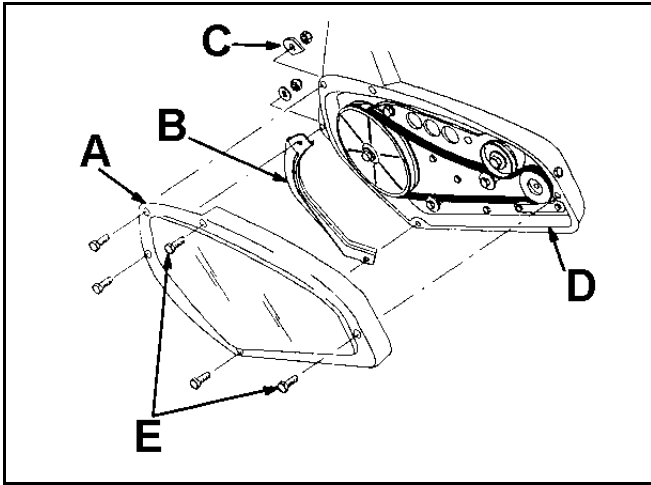

Figure 91
- Remove the two self-tapping screws, three cap screws, one washer, and three locknuts that secure the drive belt cover to the snowthrower frame (Figure 91). Set the drive belt cover aside.
- Remove the left rotor guard (Figure 91) and save it for installation in step 10.
**NOTE:** Install the diamond-shaped washer as shown in Figure 91 and Figure 93.